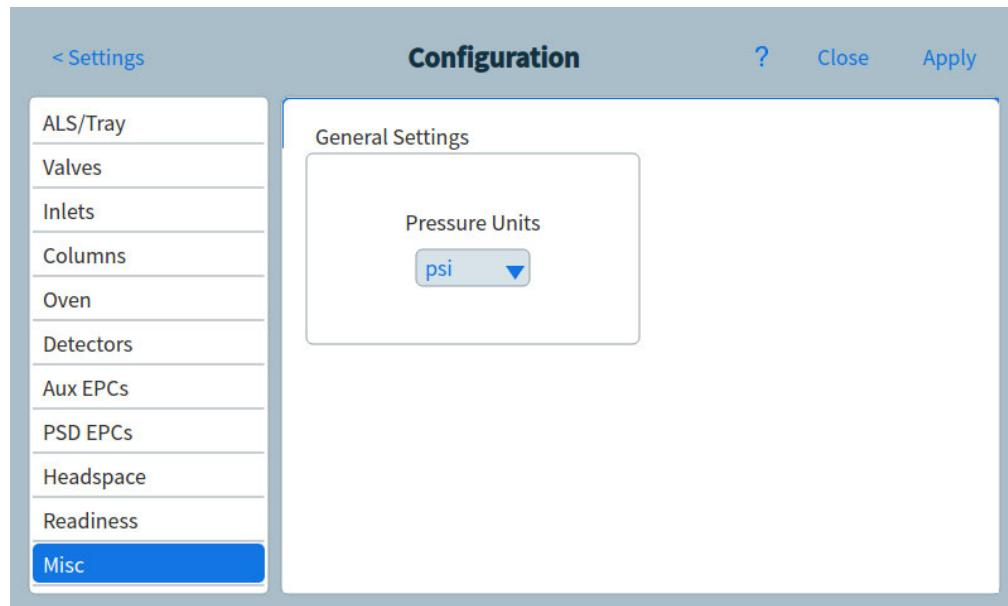

Figure 65. Miscellaneous settings page
- 1 Select **Settings > Configuration > Misc**. See **Figure 65**.